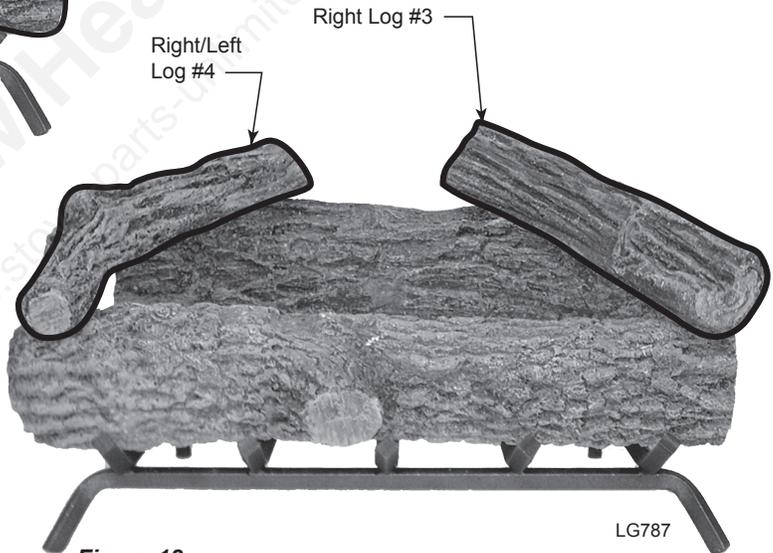

**Figure 16 - Place Back Log #2 on Grate Bars at Back of Grate**
1. Place Back Log #2 on grate bars on back of grate. *Figure 16*